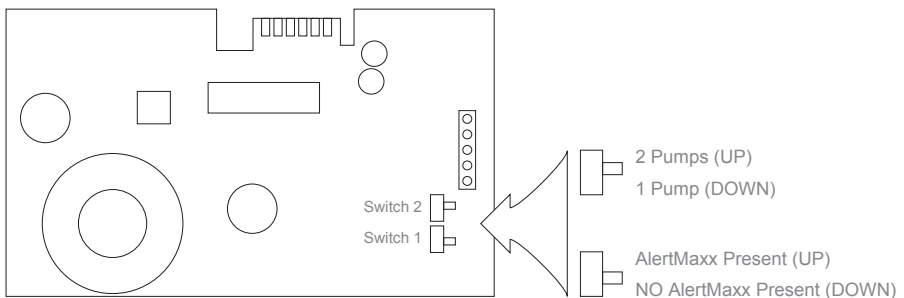

Figure 3. Configuring the upper circuit board
- Using the diagram below, set the switches on the upper circuit board according to your systems configuration (figure 3). **If you are connecting an AlertMaxx2, set switch 1 in the DOWN position (NO AlertMaxx Present) until configuring the units.**